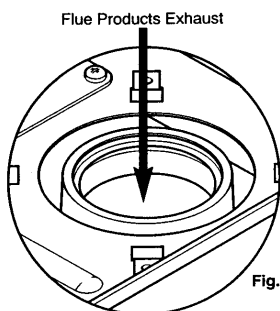

Fig. 25a
- Carefully pour approximately 1 litre of water into the flue products exhaust, at the top of the heat exchanger (Fig. 25a).